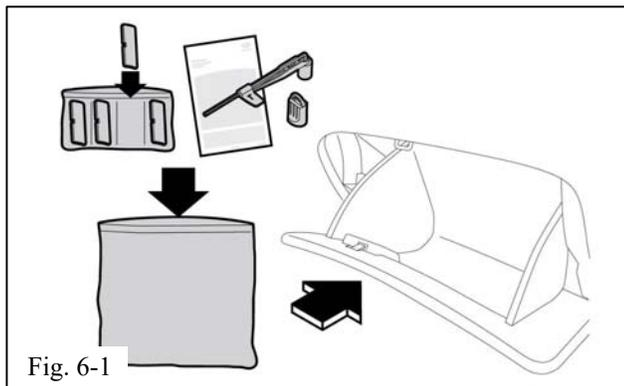

Fig. 6-1
(a) Place all roof rail cap covers (4) into the cap cover protection bag (Fig. 6-1).